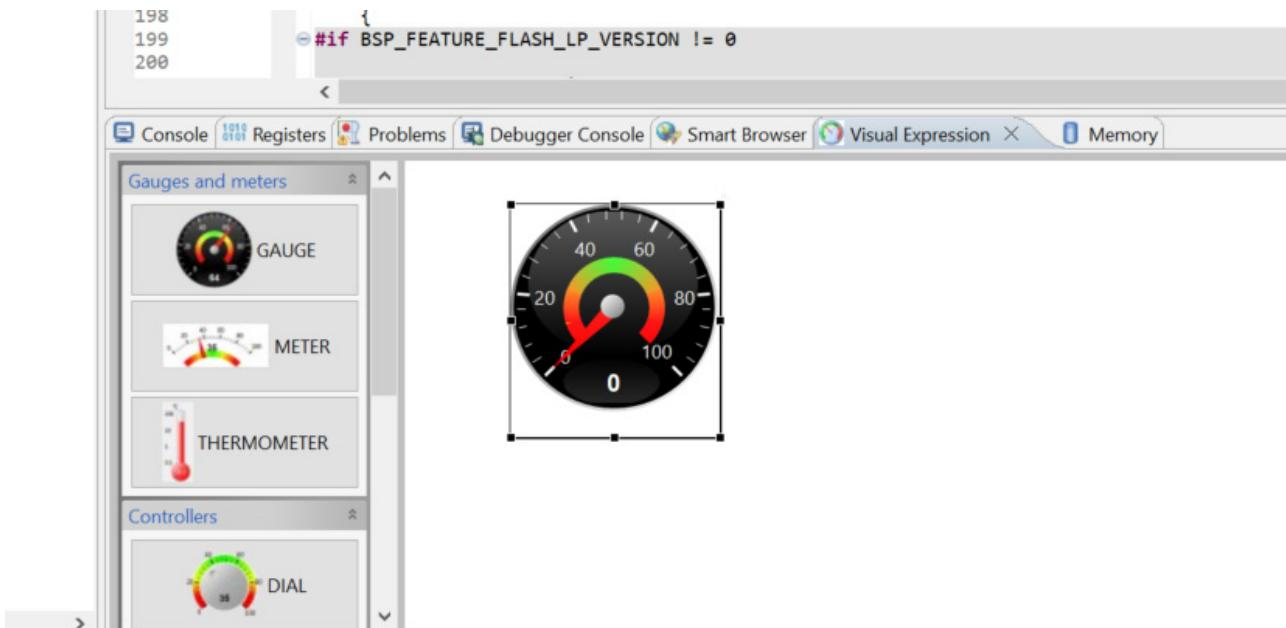

Figure 21. Gauge Setup
- Add gauges to see sensor data from the RRH62000 by dragging the **GAUGE** icon into the Visual Expression window (see Figure 21).